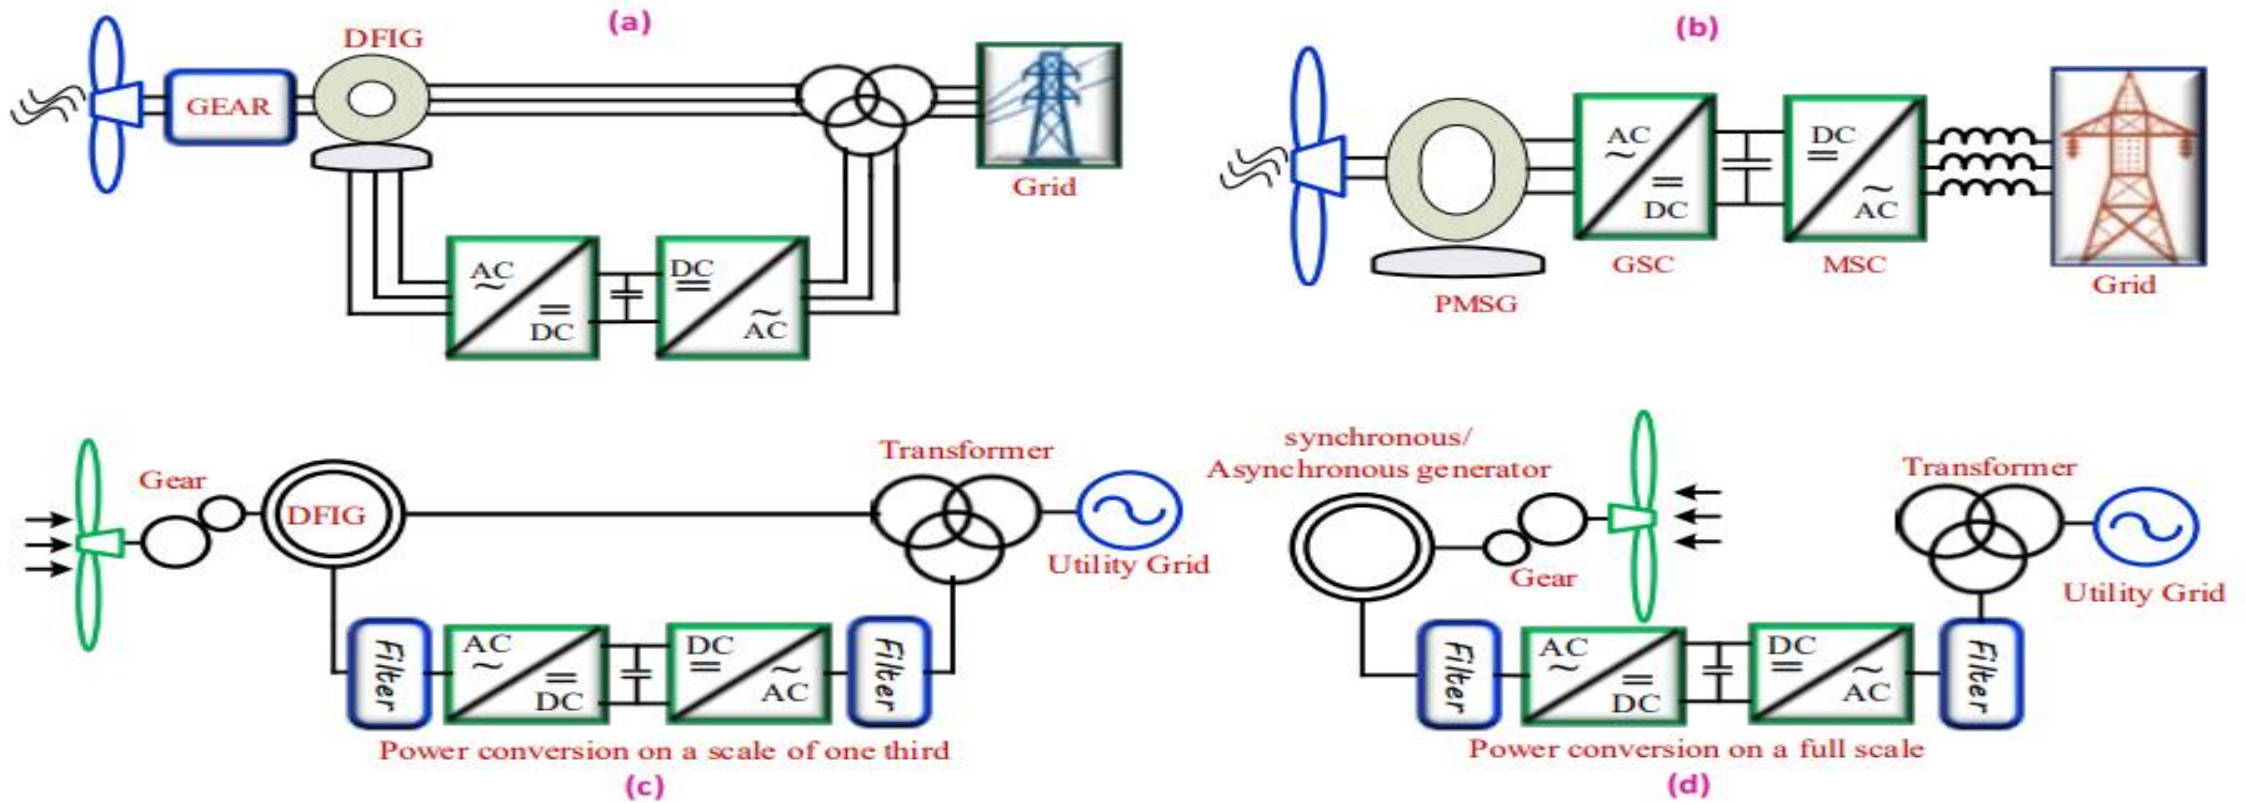

Figure 4. Variable Speed wind generator. Source: [www.windustry.com](http://www.windustry.com)
- Additional rotor excitation is supplied via slip **rings by a current regulated**, voltage-source converter, which can adjust the rotor currents' magnitude and phase nearly instantaneously as presented in Fig.4(a)